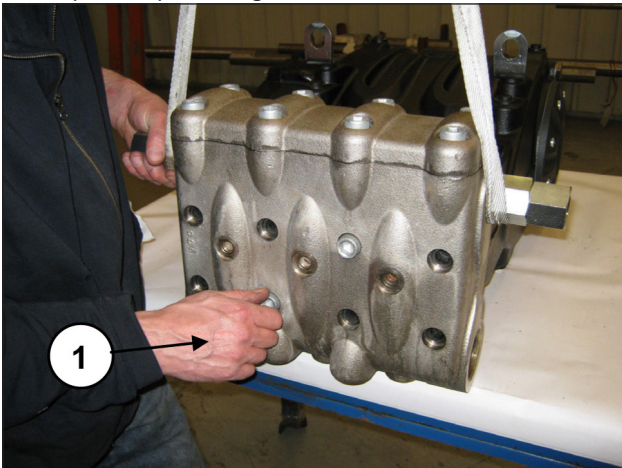
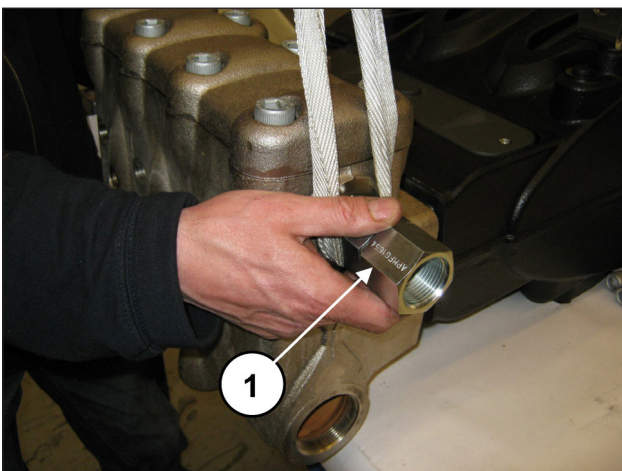

Fig. 111
Fig. 112
It is now possible to remove the head from the pump casing, unscrewing the 8 M16x180 screws (pos. ①, Fig. 111). During disassembly of the head, pay special attention not to hit the pistons (pos. ①, Fig. 112).